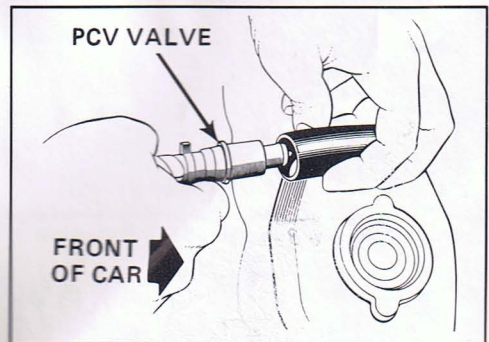

Figure 2 - Removing PCV valve from grommet
2. Remove the PCV valve from the crankcase ventilation grommet in the valve cover. (See "Removal/Replacement.") Leave the PCV valve hose attached to the PCV valve. See Figure 2.
1. Firmly grasp the PCV valve (with hose attached) as close to the grommet as possible. Pull the valve out of the grommet with a twisting motion. See Figure 2. It may be necessary to roll the end of the grommet back in order to remove the PCV valve.